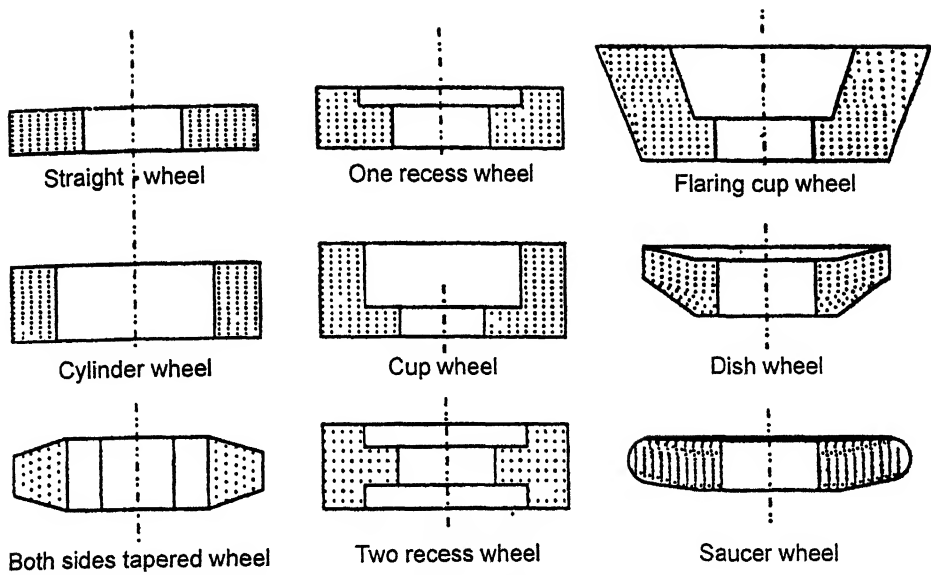

Fig. 11.11. Wheel shapes.
Refer to Figs. 11.11 and 11.12.
- Some of the grinding wheel shapes are shown in Fig. 11.11.